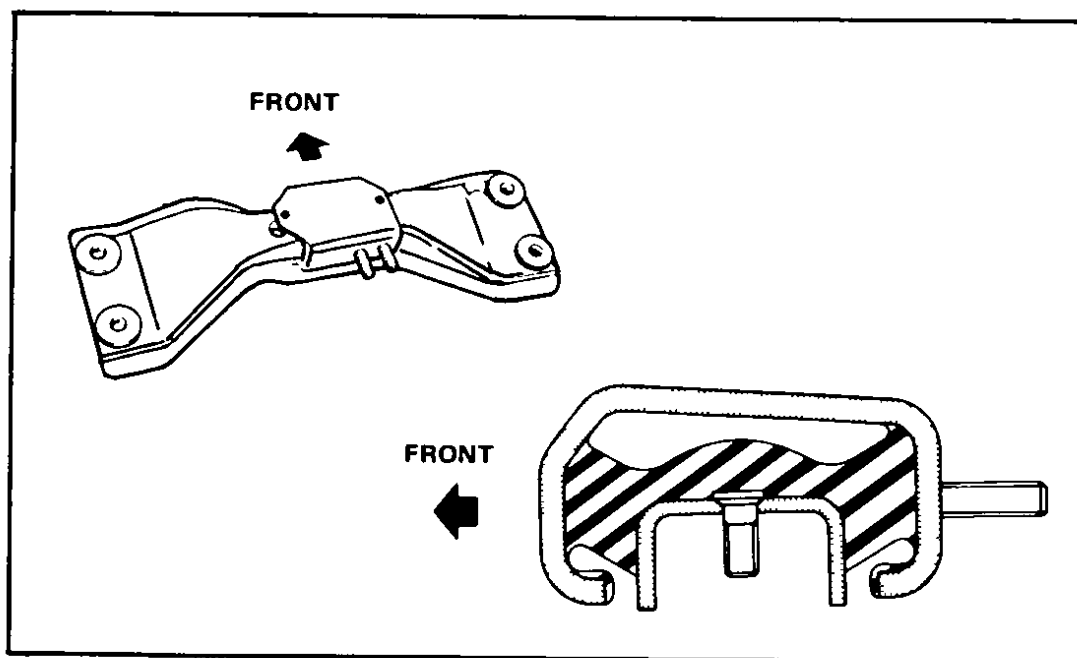

Fig. 130 Typical rear engine mount
- 4 Remove the bolts and separate the insulator from the engine mounting member, Fig. 130. Raise the transmission slightly if necessary. Installation is the reverse of removal. Be sure to protect mounts from oil and grease and tighten all bolts securely.